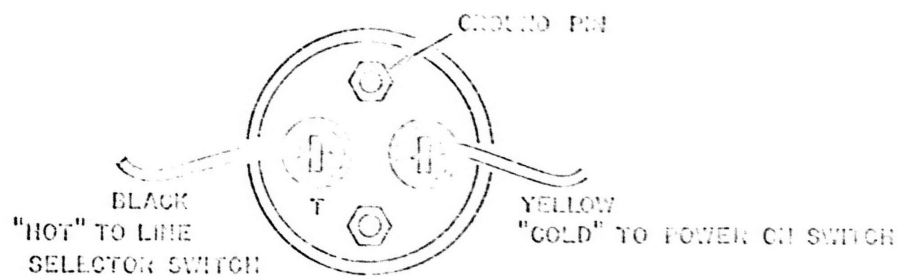

FIG. 2
B. TO INSTALL DETACHABLE CORD: Refer to Fig. 2.